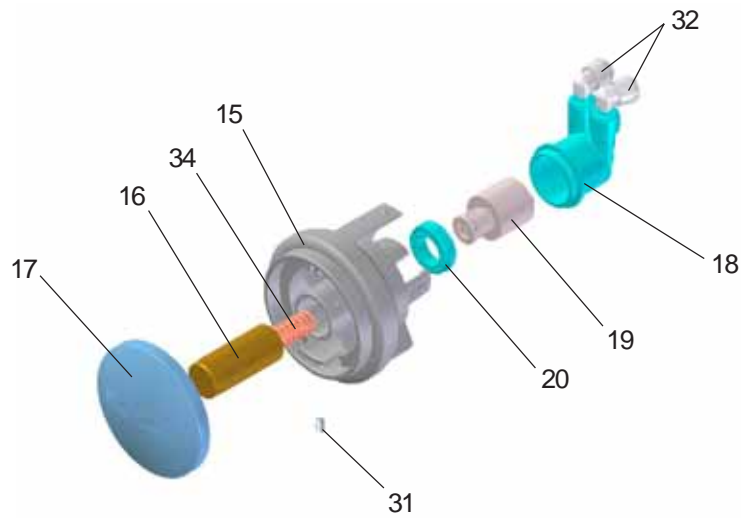

Figure 10 - Push Button
8. **Check** stream height from bubbler. Stream height is factory set at 35 PSI. If supply pressure varies greatly from this, remove push button (Item 17 - Figure 10) and adjust the screw on the regulator (Item 19 - Figure 10). To remove push button, remove setscrew from bottom of sleeve (Item 15). Insert a small punch in screw hole and push up while grasping the push button and pull forward removing the push button. Clockwise adjustment will raise stream height and counterclockwise movement will lower stream height. For best adjustment stream should hit basin approximately 6-1/2" from the bubbler. Reassemble the push button by pushing in on button until the push button catches in the sleeve. Reinstall the setscrew (Item 31) in the sleeve (Item 15).